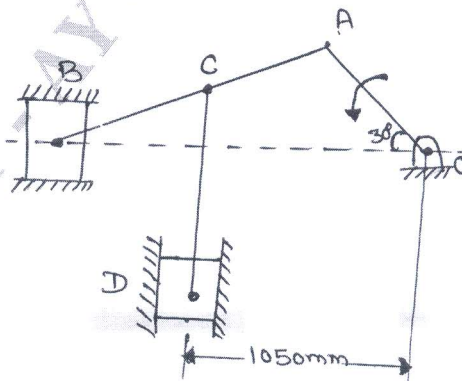

Fig. Q3
- For the Mechanism shown in Fig. Q3, crank OA rotates at 20 rpm anticlock wise and gives motion to sliding blocks B and D, OA = 300 mm, AB = 1200 mm, BC = 450 mm and CD = 450 mm. Determine :